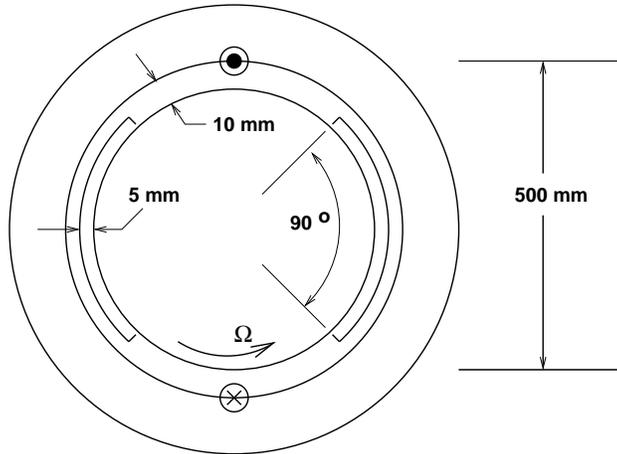

Figure 4: Problem 2: Excitation Curve of a DC generator
**Problem 4: Permanent Magnets** Figure 4 shows, in cartoon form, a structure a little bit like a machine. A ferromagnetic rotor carries a two-pole magnetic structure. The magnets are each  $90^\circ$  wide. The rotor is shown in its position at time  $t = 0$ . The magnet on the right presents a North pole to the air-gap while the other magnet presents a south pole to the air-gap. The stator carries a single, concentrated coil with one turn (essentially a search coil), with the wire directions as shown in the figure. Assume the magnet remanent flux density is 1.0 Tesla.